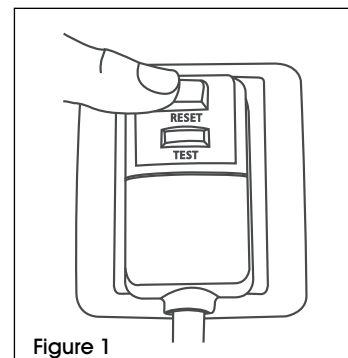

Figure 1
3. Press the **RESET** button. Again, you will notice a click as the button engages. (See Figure 1)